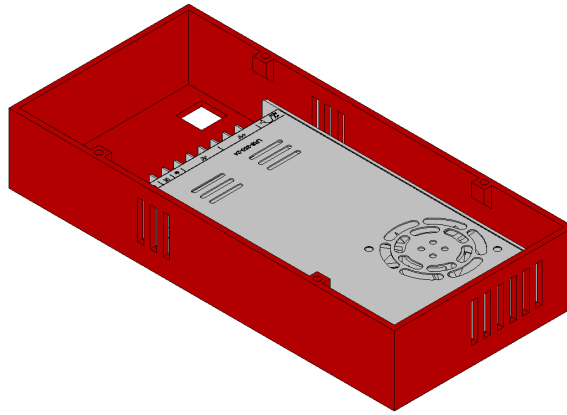

Figure 31: *Power supply case* with the power supply mounted.
1. Take the *power supply case* of the electronics box. Attach the Meanwell power supply with four M3 screws. The power supply holes are located from the bottom of the *power supply case*. Connect the cables for the power supply. The cables are: a power cord to the power supply input, and three (2) couple of cables for the power supply output. Make sure to pass the power cord through the right hole of the case. Notice the holes in the upper side of the *power supply case*. These holes are intended for M3 inserts. Heat four (4) M3 inserts with either a heat gun or a soldering iron and place them into the holes. Allow for the inserts to cool down. The assembly is shown on figure 31.